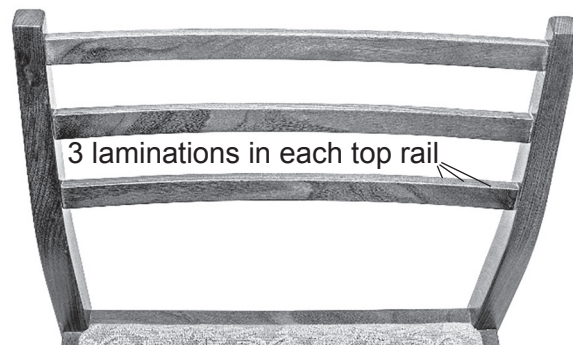

Fig. 9.2
- (ii) Fig. 9.2 shows the laminated top rails of the chair.